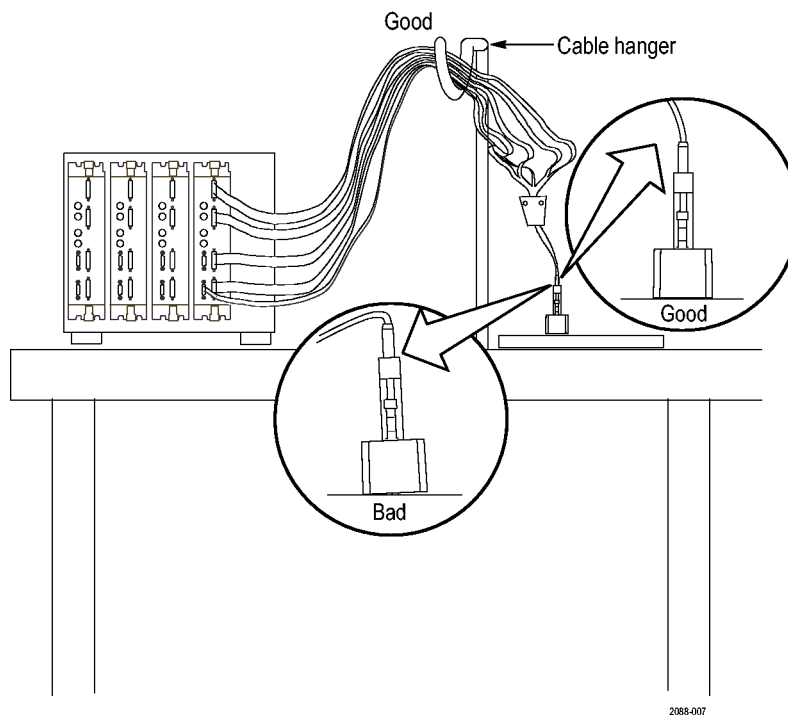

Figure 7: Arranging the midbus probe cables
5. Hang the probe cables so that the probe head is perpendicular to the circuit board, and tension on the retention mechanism is minimized. Route the cables as straight as possible, maximizing the bend radius, and making sure that a 90 degree bend does not occur within three inches of the circuit board surface. (See Figure 7.)